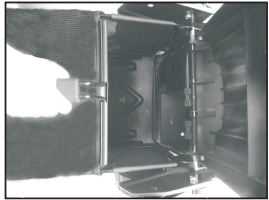
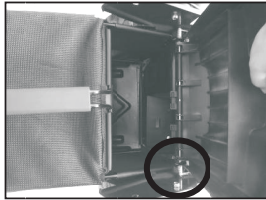
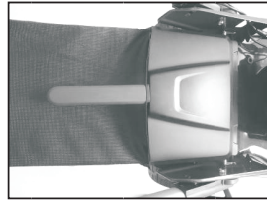

Fig.4D
Fig. 4E
Fig. 4F
1. To fit: Raise the rear cover and hitch the grass catcher on rear of mower. (Fig.4D/ Fig.4E/ Fig.4F)